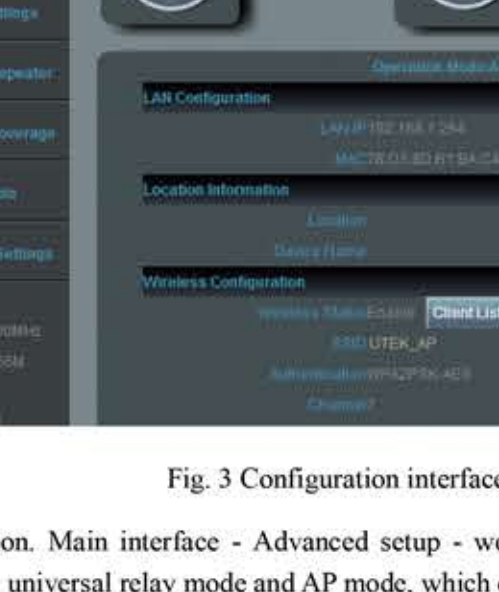

Fig. 1
5.03. Network parameter configuration. Connect the equipment to the computer adapter with a piece of network cable. Configure the IP address 192.168.1.XXX (XXX: 0-252) that is at the same network segment as that of the equipment. The default IP address of the equipment is 192.168.1.254, see Fig. 1 for the configuration: